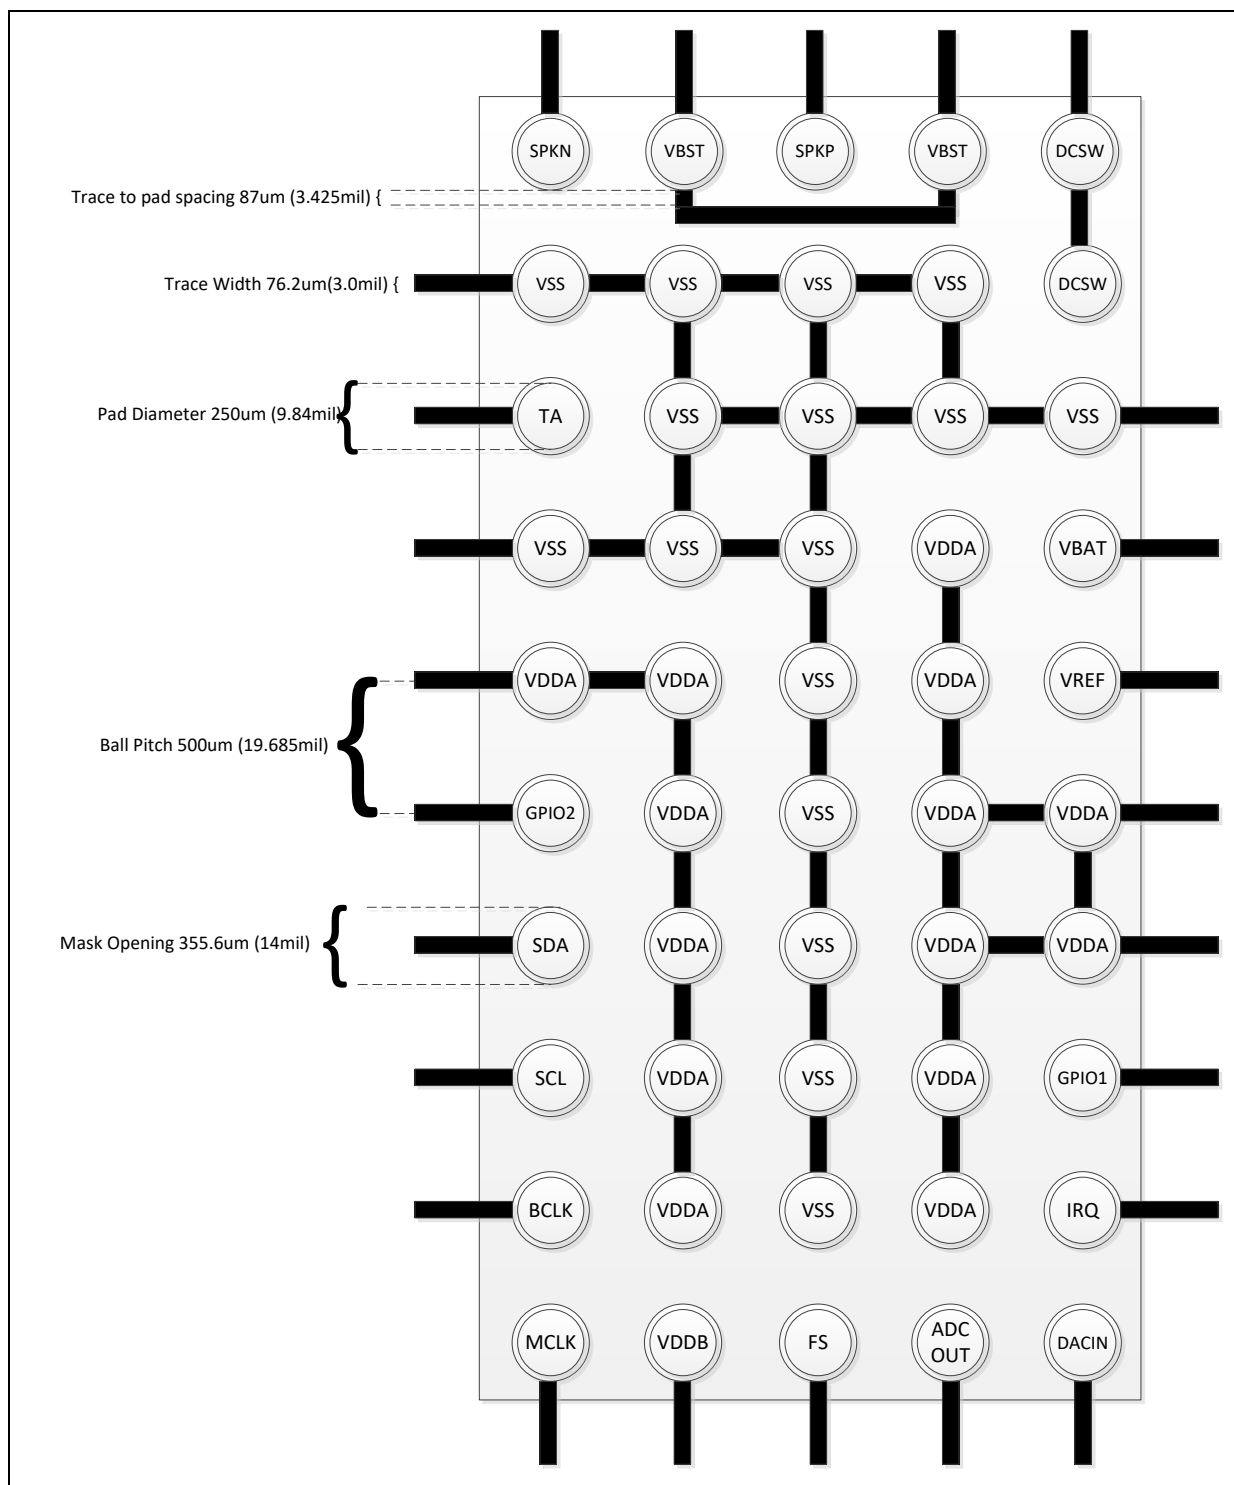
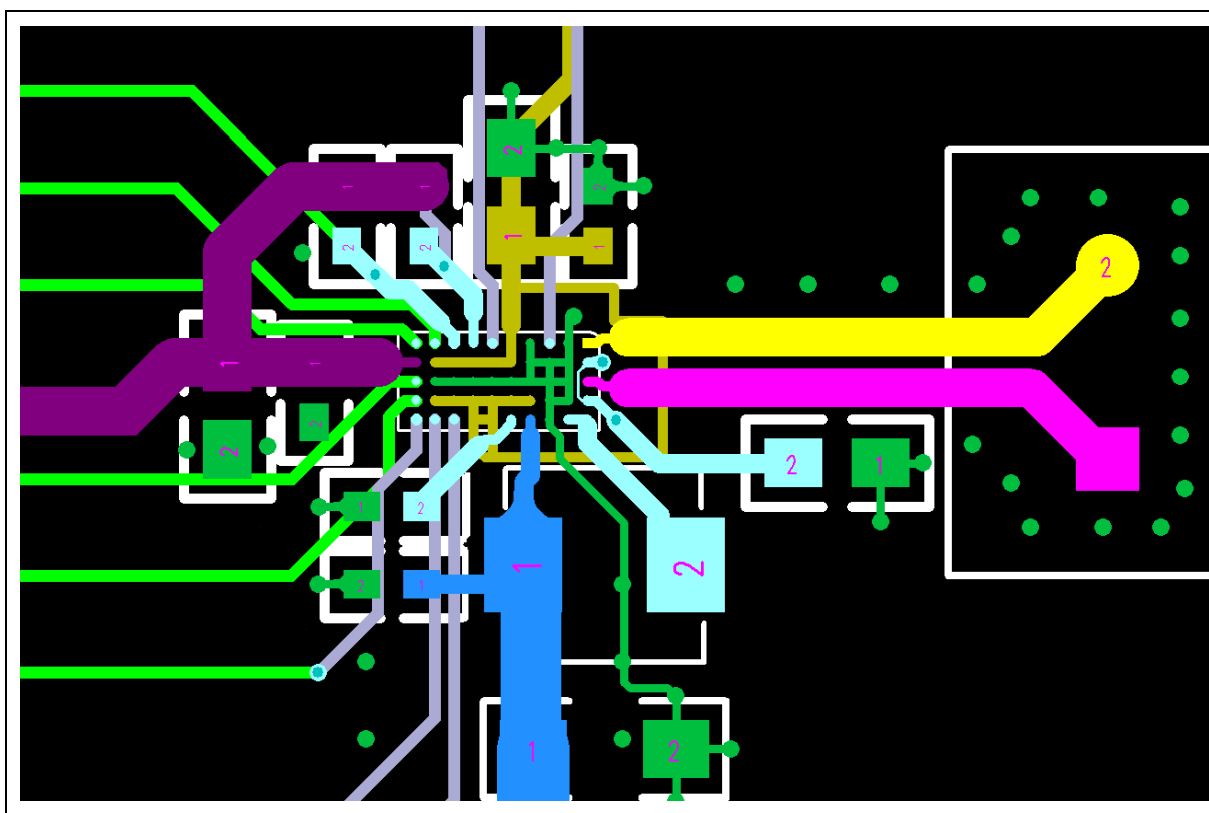

Figure 16 Recommended PCB Footprint
Figure 17 Layout Traces Example
The recommended footprint for the PCB layout for the NAU83G10 is provided in **Figure 16**, as viewed from the top of the pcb.
- For the traces that run between the balls, follow the guidelines listed in **Figure 16** and see the example illustrated in **Figure 17**.